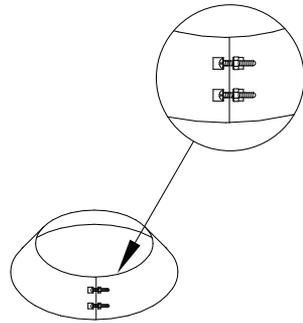

Figure 11
e. Wrap the Collar of the Attic Insulation Shield around the chimney and fasten it loosely. Slide the Collar down to meet the Attic Insulation Shield. Tighten the bolts to secure the Collar in place (**Fig 11**).